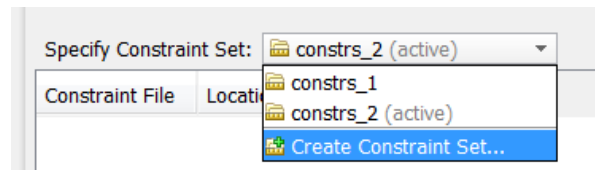

Figure 4: Create Constraint Set
3. From the Add or Create Constraints dialog box, use the Specify Constraint Set: drop down menu to select **Create Constraint Set** as shown in Figure 4.